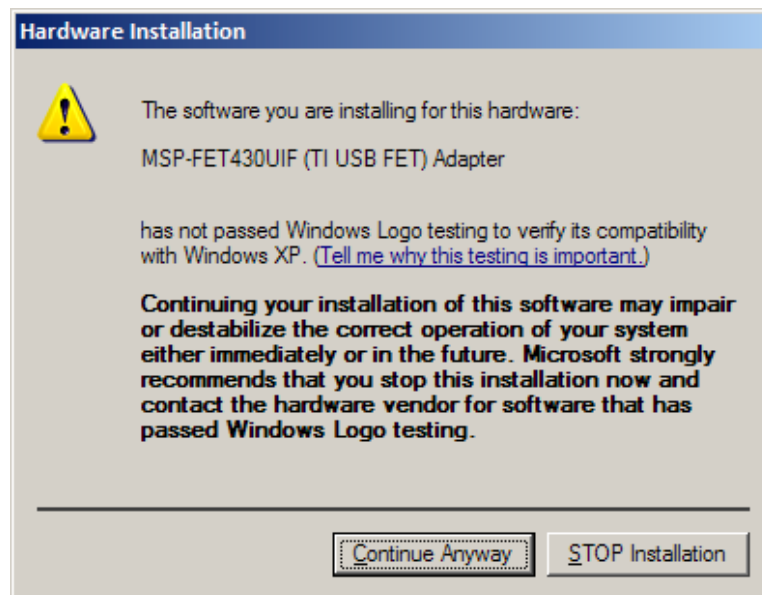

Figure 9. Windows XP Warning
7. The Wizard should find the appropriate driver and on Windows XP system, it will prompt you with a warning that Microsoft did not certify the driver. The drivers have been tested exhaustively and you may ignore this warning and click “**Continue Anyway**” (Figure 9).